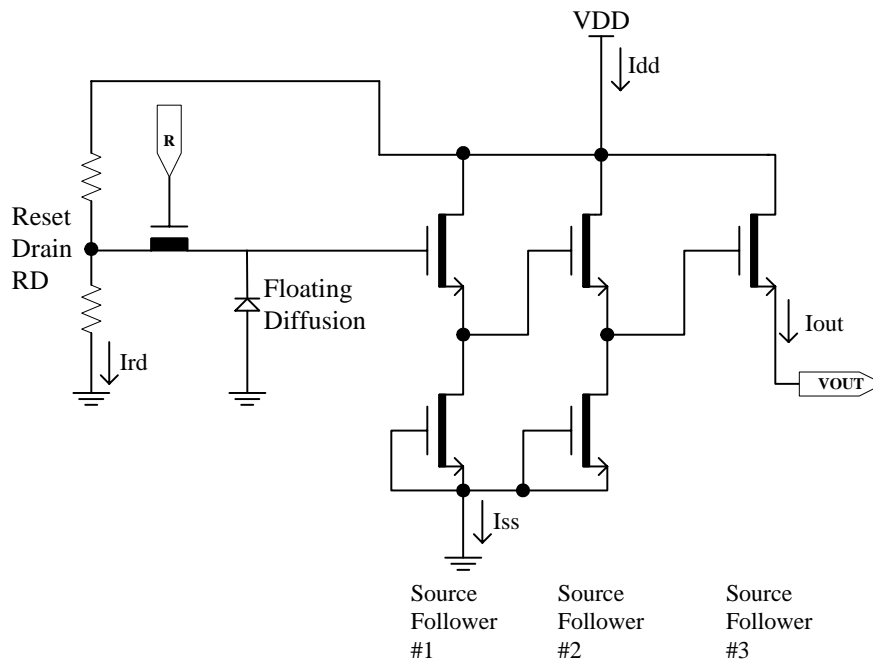

Figure 11: Output Amplifier
- Each output. See Figure 11: Output Amplifier. Note that the current bias affects the amplifier bandwidth.
1. The maximum DC current is for one output unloaded and is shown as Ird + Iss in Figure 11. This is the maximum current that the first two stages of one output amplifier plus the reset drain bias circuit will draw. This value is with Vout disconnected.